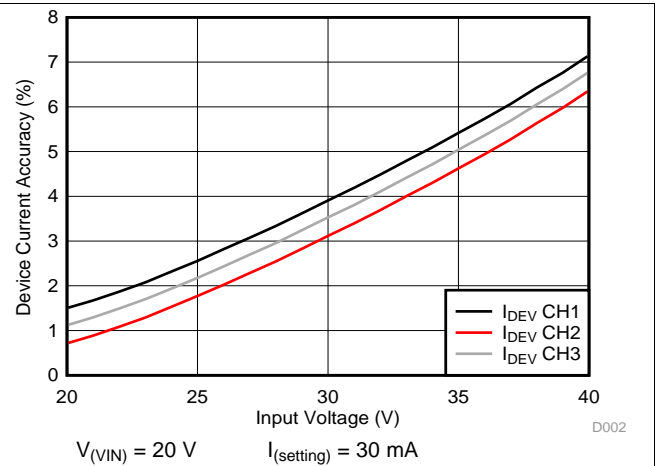
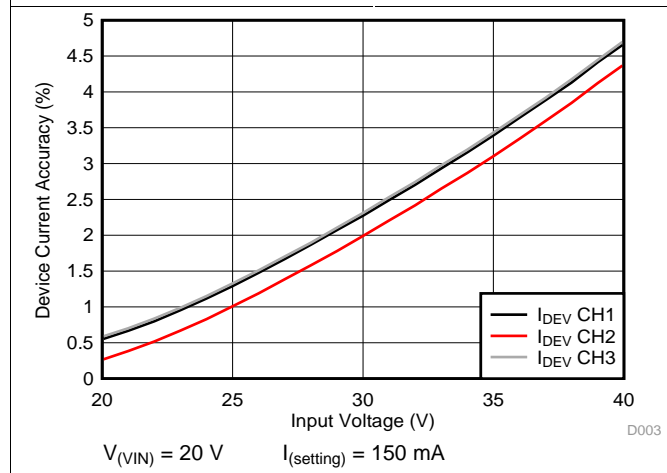

Figure 2. Device Current Accuracy versus Input Voltage
Figure 3. Device Current Accuracy versus Input Voltage
(2) For  $V_{(VIN)}$  voltages higher than 20 V, see Figure 2 and Figure 3.